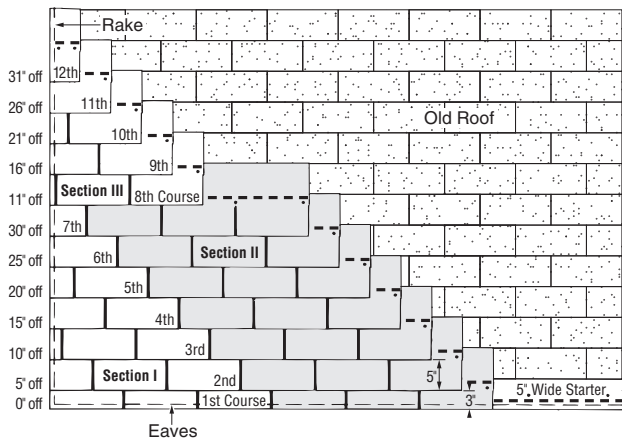

Figure 10-21: Five Off, Twelve Up, Nested.
1ST COURSE: The first course is made of 10" by 36" shingle strips made by cutting 2" off the bottom of the tabs of regular shingles. Align the top edge of the strips so they butt up against the tabs of the shingles in the old third course (Figure 10-21).
1. Begin the second course by cutting 5" off the left end of a shingle and aligning the top edge with the butt edge of the shingle in the old fourth course (Figure 10-21).
1. Begin the eighth course by cutting 11" off the left end of a shingle and applying the 25" piece over the seventh course shingle, aligned with the left edge of the seventh course (Figure 10-21).